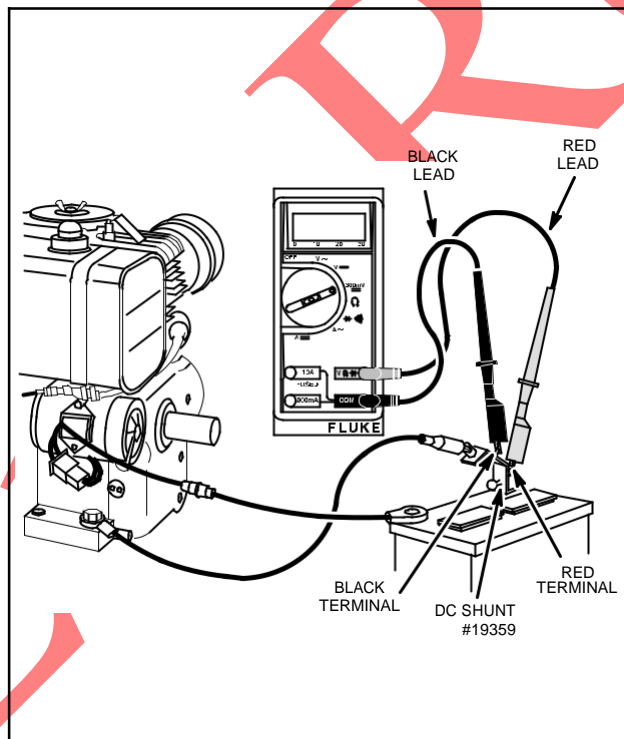

Fig. 783 – TESTING REGULATOR-RECTIFIER 16 AMP SYSTEM WITH DC SHUNT
The DC Shunt must be installed on the – (negative) terminal of the battery, Fig. 783. All connections must be clean and tight for correct amperage readings.
2. Insert RED test lead into  $V\Omega \rightarrow +$  receptacle in meter and connect to RED post terminal on shunt, Fig. 783.
5. Attach RED test lead clip to DC output terminal on regulator-rectifier, Fig. 783.